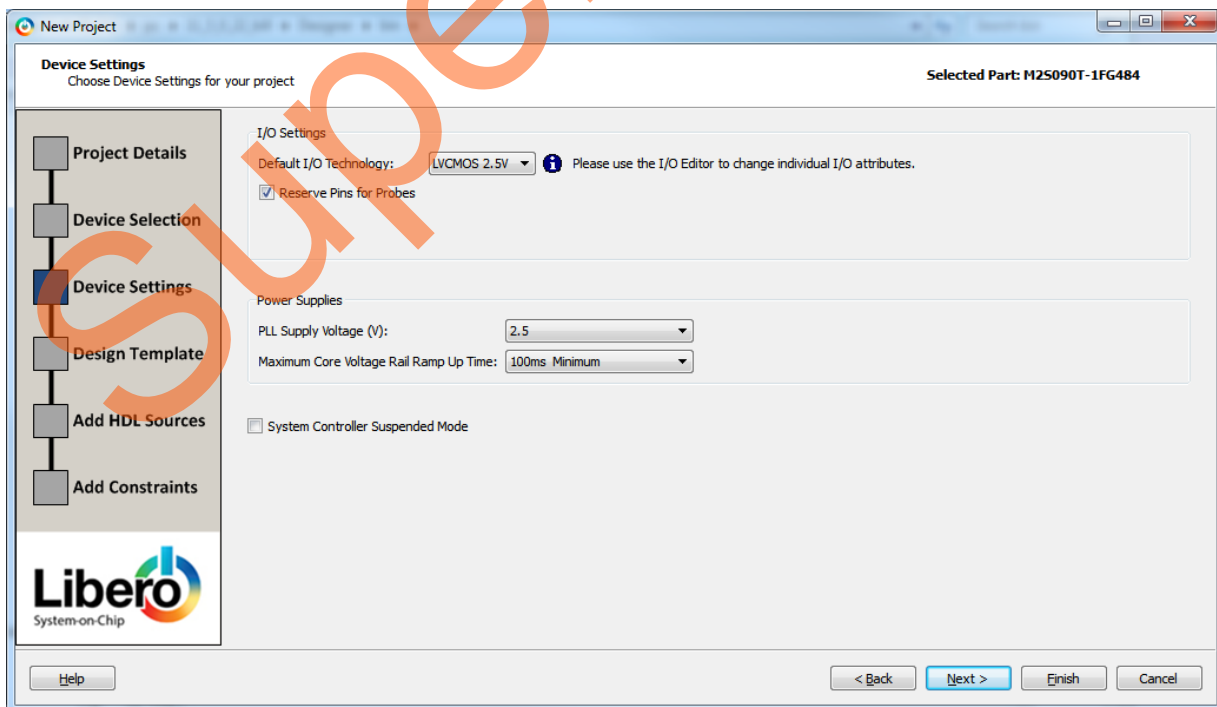

Figure 4. Device Settings Window
4. Click **Next**. In the **Device Settings** window, select the information displayed in Figure 4.
- PLL Supply Voltage (V): 2.5